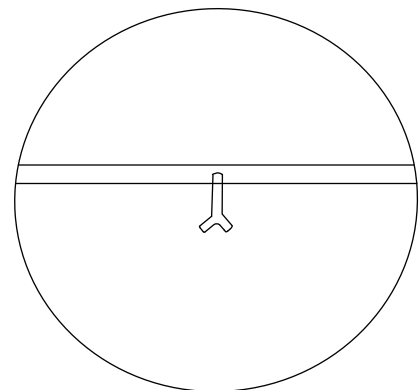

Figure 10
STEP 7: Place the gas cylinder into the cylinder holder (figure 9), secure the cylinder by tightening clockwise the bolt (figure 10) found on the cylinder holder, so the cylinder cannot move from side to side or fall down.